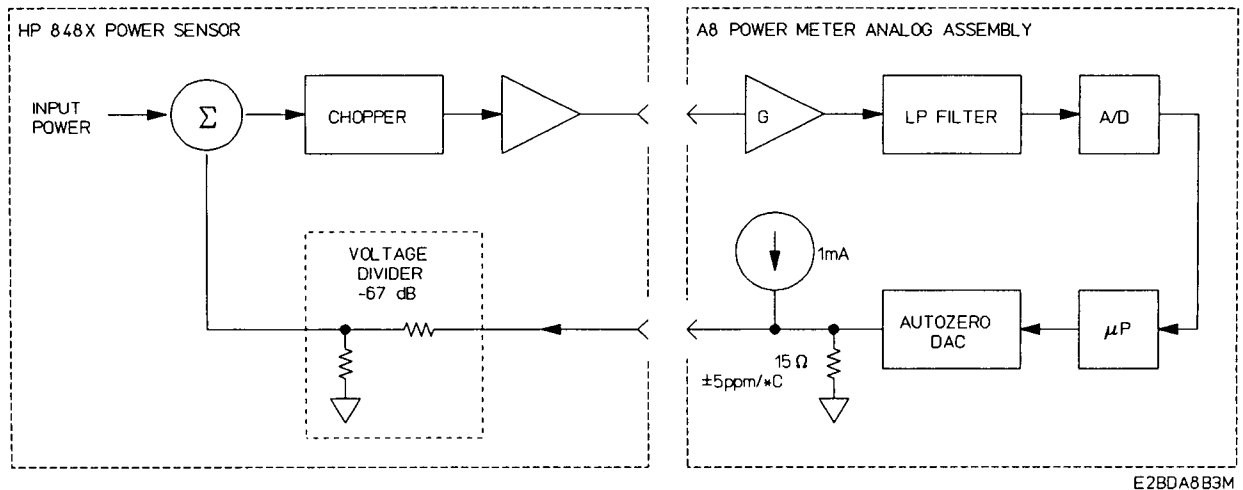

Figure 8-27. Simplified Zeroing Block Diagram
**Auto-Zero DAC.** *Figure 8-27*, is a simplified block diagram of the zeroing loop. When the front panel Zero key is pressed, the firmware zeroing routine is initiated. Auto-Zero DAC U3(14) output is used to zero the output from the Low Pass Filter (LPF) circuit when no RF signal is applied at the sensor input. The Auto-Zero output compensates for any pre-chopping or post-detection dc voltage offsets. This includes offsets contributed by the Power Sensor, the Synchronous Phase Detector, and the LPF. (The Input Amplifier, Range Attenuators, Variable Gain Amplifier, and Bandpass Filter Amplifier are ac-coupled, and therefore cannot contribute.) Auto-Zero DAC U3(14) output is applied to the Power Sensor, where it is attenuated, summed at the thermocouple sensing element, gets chopped, and then sent through the Power Meter amplifier chain.